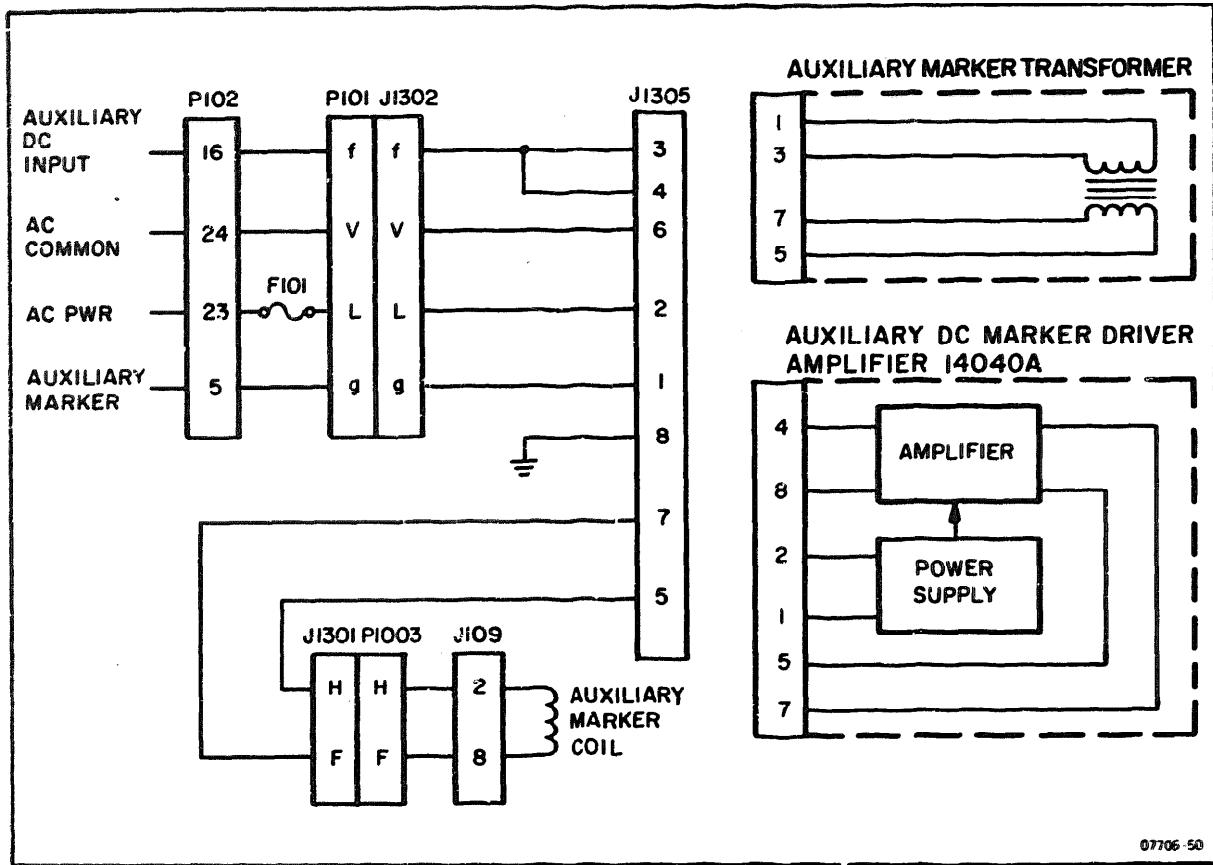

Figure 4-24. Modification of Auxiliary Marker
4-108 The auxiliary marker is supplied on special order only, and is usually installed between channels 1 and 2. Circuits using the auxiliary marker are shown in Figure 4-24. Operation of the auxiliary marker is independent of the standard marker.
a. The auxiliary marker may be used with a transformer as shown in Figure 4-24. This provides marking indications only, at line frequency, by connecting 115 Vac to the input terminals.